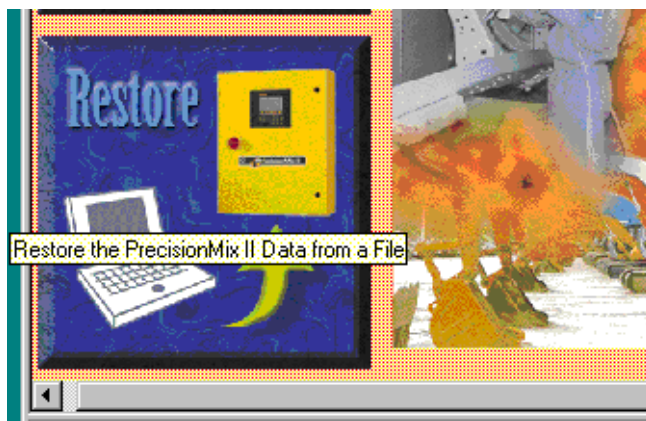

Fig. 13.13
1. Select **File** ► **Restore PrecisionMix II** (Fig. 13.12) from the toolbar or press the restore button (Fig. 13.13) on the main window.